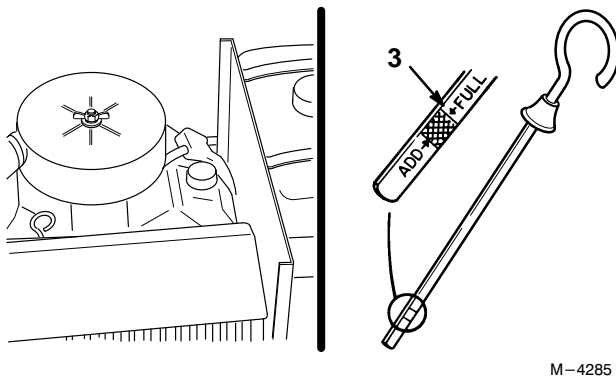

Figure 13
3. Clean around the oil dipstick and oil fill (Fig. 13) so dirt cannot fall into the filler hole and damage the engine.
4. Pull the oil dipstick out and wipe the metal end clean (Fig. 13).
5. Slide the oil dipstick fully into the dipstick tube (Fig. 13). Pull the dipstick out and look at the metal end. If oil level is low, slowly pour only enough oil into the filler hole to raise the level to the “FULL” mark.
5. Slowly pour approximately 80% of the specified amount of oil into the filler tube (Fig. 13). Now check the oil level; refer to Checking Oil Level, page 22. Slowly add additional oil to bring to “FULL” mark on dipstick.